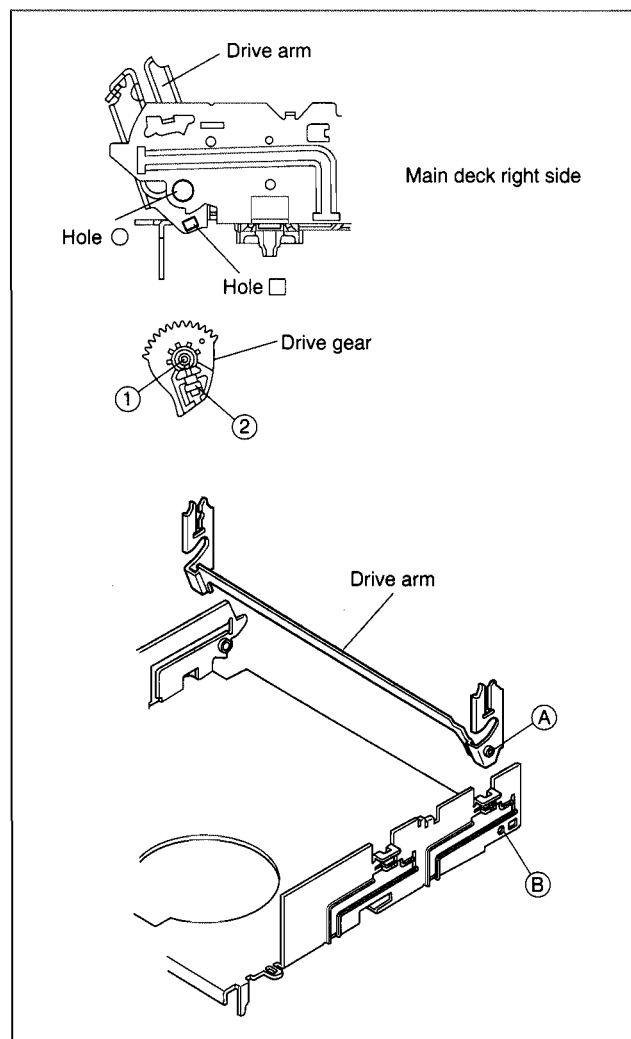

Fig. 2-2-7
- (1) Insert the section (A) of the drive arm into the section (B) of the main deck.
- (2) Insert the section ① of the drive gear into the round hole, and the section ② into the square hole on the drive arm. (See Fig.2-2-7.)